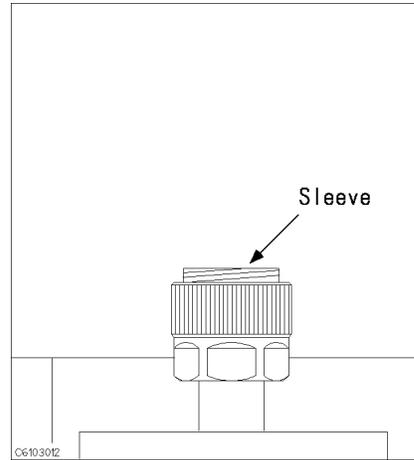

Figure 3-6.
5. Verify that the connector sleeve is extended fully as shown in Figure 3-6.